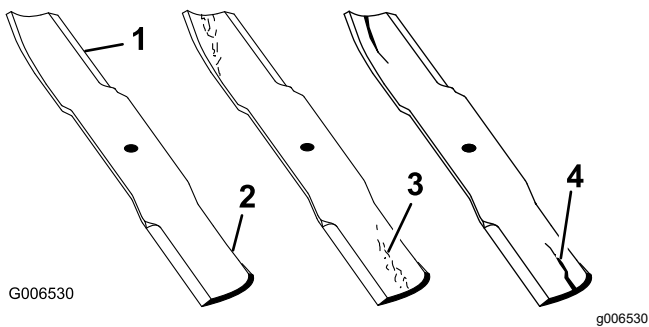

Figure 50
1. Inspect the cutting edges (Figure 50).
4. If you notice any cracks, wear, or a slot forming in this area, immediately install a new blade (Figure 50).